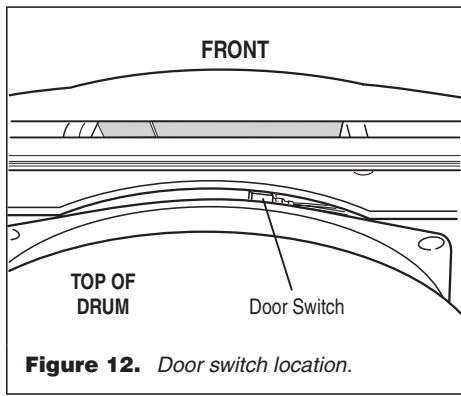

Figure 12. Door switch location.
- If any of the above conditions are not met, or if one of the dryer model codes listed above is displayed when the door is closed, check that the wires between the door switch and machine control electronics are connected. See figure 12, page 7 for switch location; and see Accessing & Removing the Electronic Assemblies, page 7.